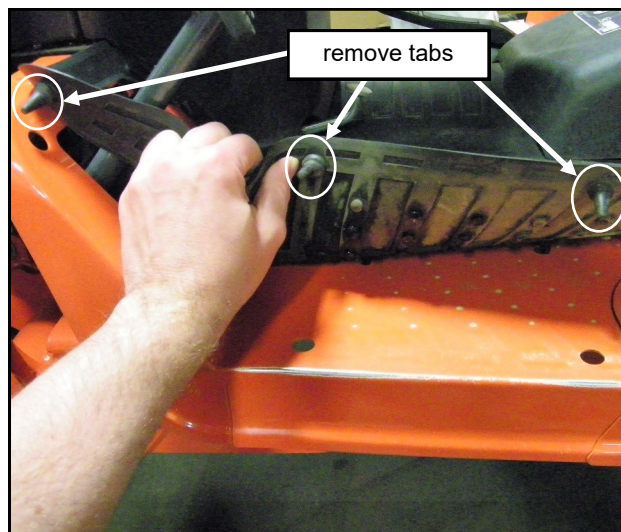

Fig. 1.13 (underside of floor mat - left floorboard)
**1.13** Peel up both the right and left sides of the rubber mat. Using a utility knife, remove the (3) outer tabs on both sides of the mat for a total of (6) tabs. See figure 1.13. Re-install both sides of the mat in place.